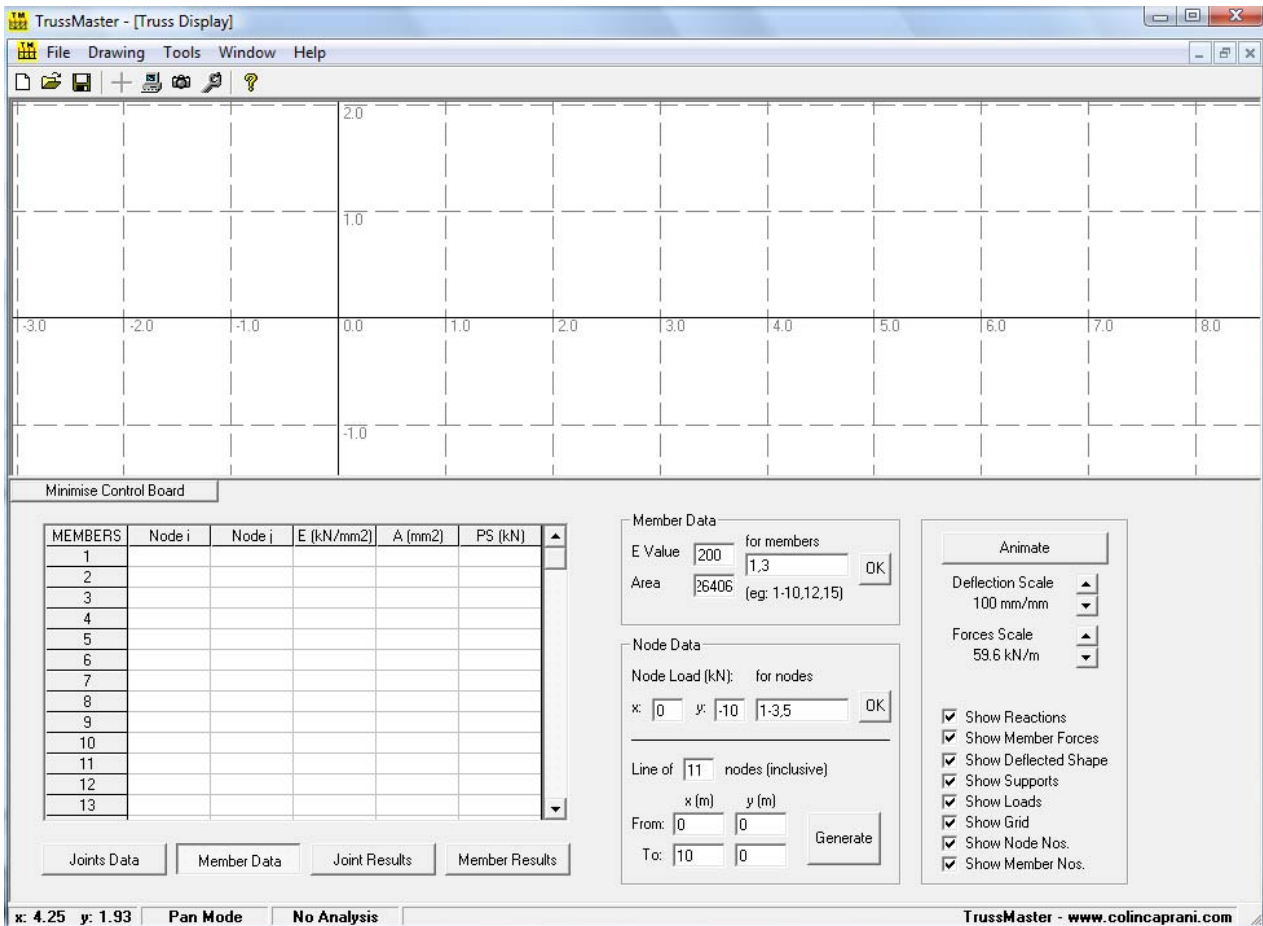

**FIG. Q1**
1. Using the stiffness method, determine the displacement of the joints and the forces in the members of the pin-jointed truss shown in Fig. Q1, allowing for: